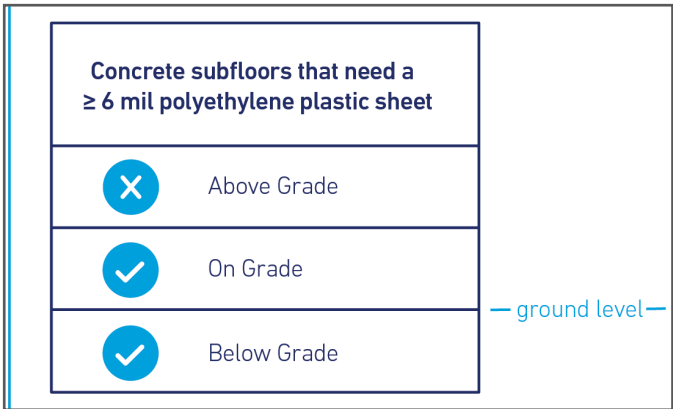

Figure 3: Concrete Moisture Requirements
Concrete Moisture: For all on and below grade concrete slabs, use a ≥ 6 -mil thick polyethylene (PE) sheet, available at Lowe's (see figure 3). Sheeting must be installed over the entire area and extend at least 2-in. up the walls. All seams must be overlapped and taped according to the product instructions. The liability and warranty for any product's performance remains with its manufacturer.